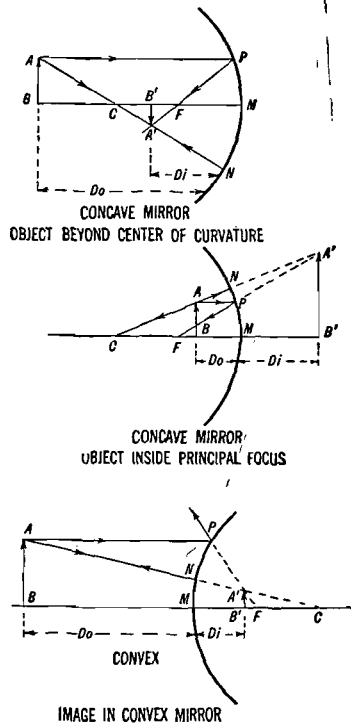

Fig. 34.7. Construction of images formed by curved mirrors.
**206. Image Formation in Curved Mirrors.** Figure 34.7 shows the method of construction used to locate the images formed by spherical mirrors. If the object  $AB$  is placed beyond the center of curvature of a concave mirror, the image will be between the center of curvature and the principal focus. To locate it, draw the ray  $AN$  through  $C$ ; this ray will meet the mirror as a normal ray and be reflected back along  $NC$ . Draw another ray  $AP$  parallel to the principal axis, and it will be reflected through the focus  $F$ . The point  $A'$  where these two reflected rays intersect is the image of  $A$ . Other points may be located in a like manner. The image is inverted and in front of the mirror. Since the light really passes through  $A'$ , the image is a real image. If the object is now placed at  $A'B'$ , its image